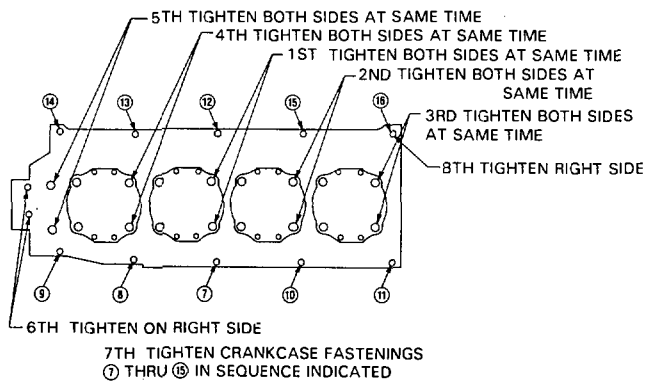

Figure 10. Left Side of Crankcase
j. Eight Cylinder Engines, Wide Cylinder Flange (See Figure 10).